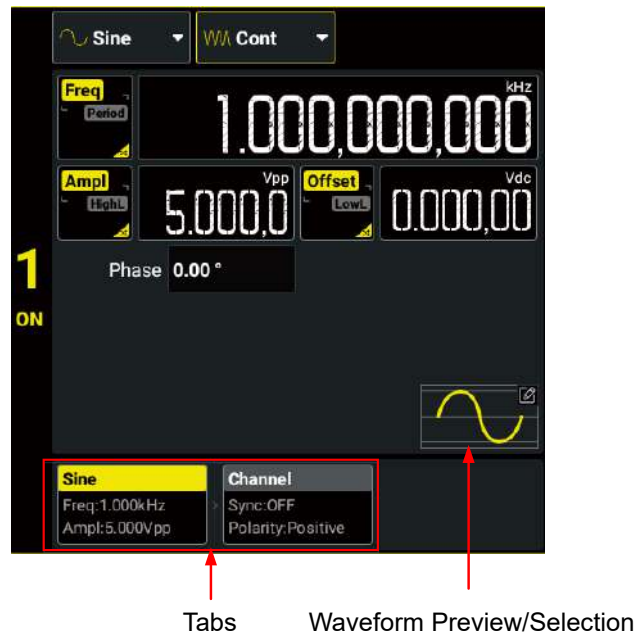

Figure 5.1 Continuous Setting Interface
- In the Continuous Setting Interface (*Figure 5.1*), click or tap the "Wave Type" drop-down button to select "Sine".
- In the Continuous Setting Interface (*Figure 5.1*), click or tap the "Waveform Preview/Selection" area and then click or tap **Built In Wforms** > **Sine**.
- In the Continuous Setting Interface (*Figure 5.1*), click or tap the "Wave Type" drop-down button to select "Square".
- In the Continuous Setting Interface (*Figure 5.1*), click or tap the "Waveform Preview/Selection" area and then click or tap **Built In Wforms** > **Square**.
You can also click or tap the "Channel" tab in Figure 5.1 interface to access the channel setup interface to configure channel output. For details, please refer to Channel Setup.
- In the Continuous Setting Interface (Figure 5.1), click or tap the "Wave Type" drop-down button to select "Ramp".
- In the Continuous Setting Interface (Figure 5.1), click or tap the "Waveform Preview/Selection" area and then click or tap **Built In Wforms** > **Ramp**.